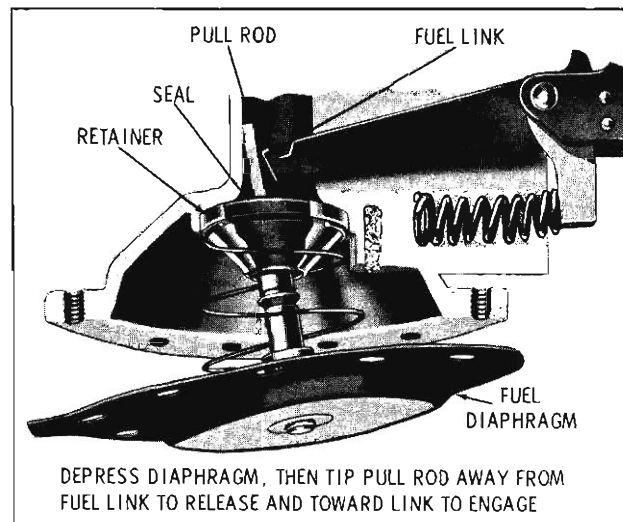

Fig. 3-60 Removing Fuel Diaphragm
- Remove pump from vise. Remove diaphragm and spring as shown in Fig. 3-60.
3. Install diaphragm as shown in Fig. 3-60.